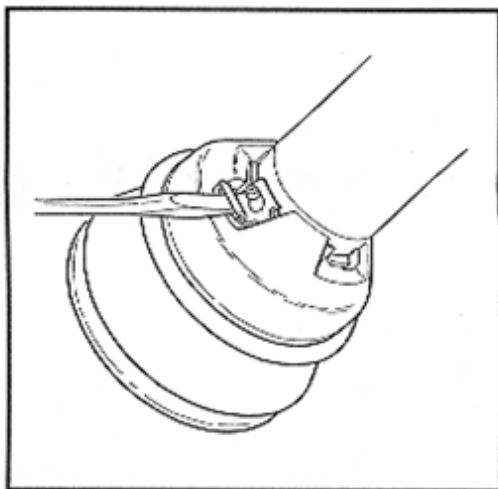

Figure 13-2: Remove Tab
1. Remove the EASY LOCK[®] tab with a screwdriver Figure 13-2.